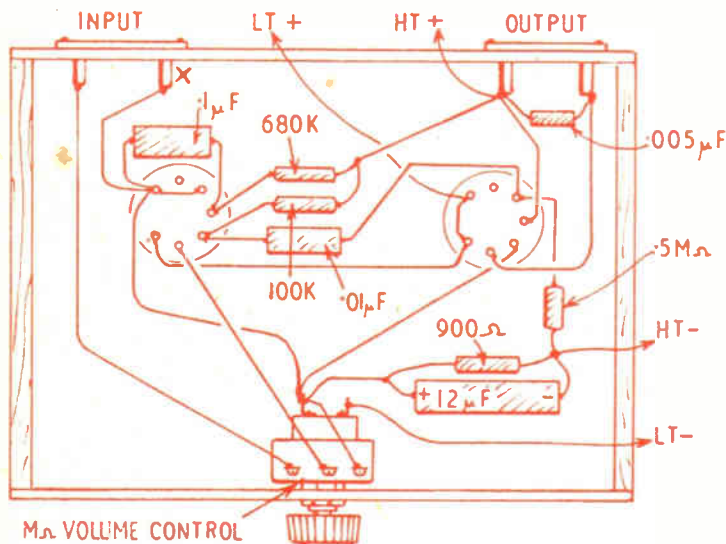

Fig. 2 Underneath wiring plan
Fig. 2 shows all connections, as no wiring is found above the chassis. Fairly thin tinned copper wire, such as 22 S.W.G., works easily, and if the tags are clean, good joints can be made without difficulty. Resin-cored solder is satisfactory, with a soldering iron sufficiently heated to melt it readily. The iron should always be removed as soon
In many places the wire ends of resistors and condensers are taken directly to the tags. Insulated sleeving can be placed over all leads, to prevent shorts. Valveholder tags must not touch each other, or other leads, etc. (This applies also to the *unused* holder tags, as the pins contacting these help to support the electrodes inside the valves.) As shown in Fig. 2, each holder has double spacing between two pins, and the
pick-up. The older type of pick-up, either crystal or magnetic, can be very satisfactory for this reason. It is only necessary to connect the two leads coming from the unit to plugs which can be inserted in the input sockets. If one connection is formed by screened brading, this is taken to the plug which is inserted in socket (X) on the amplifier (Fig. 2).